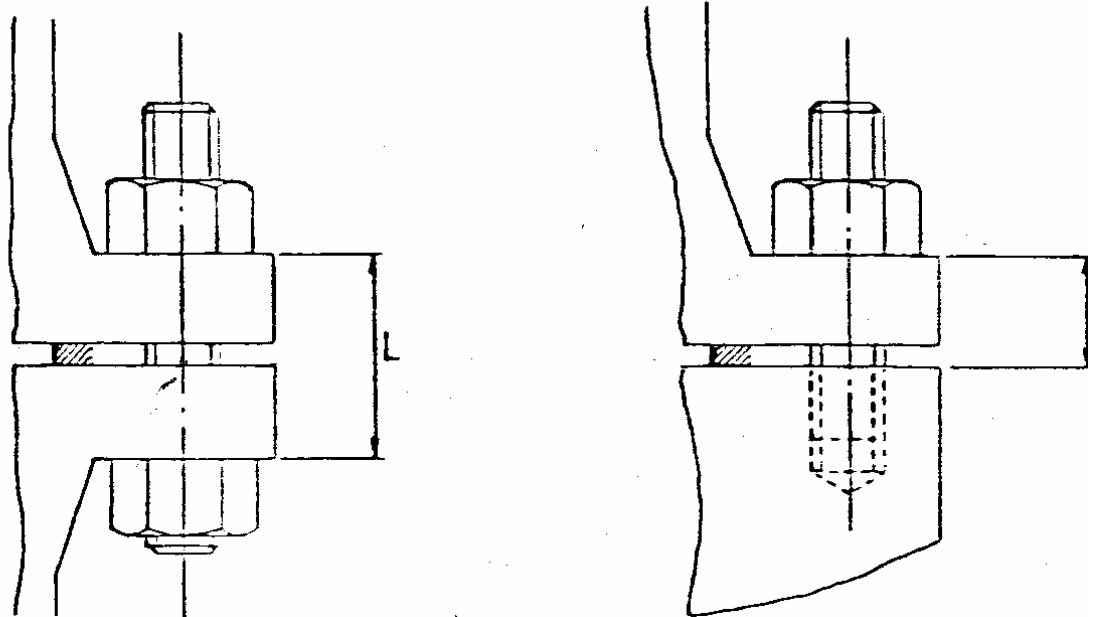

Fig. 4. Grip length
- 1 The grip length of the bolts being tensioned (see fig 4)